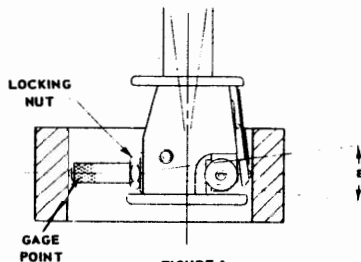

FIGURE 1
2. See Figure 1. Screw correct range Gage Point into gaging head.